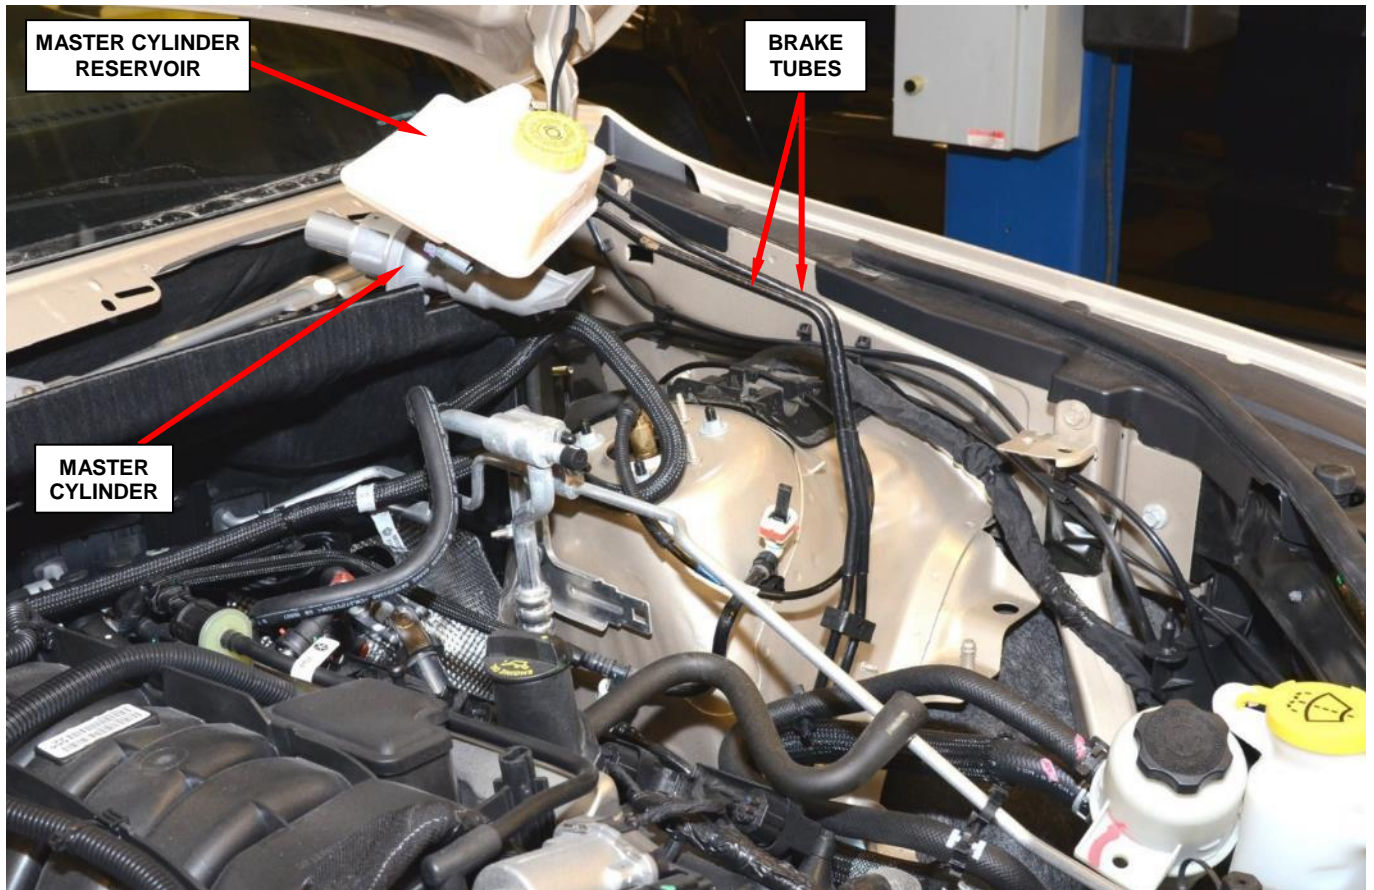

Figure 20 – Relocate Master Cylinder
- Carefully relocate the master cylinder (Figure 20).
13. Carefully relocate the master cylinder (Figure 20).